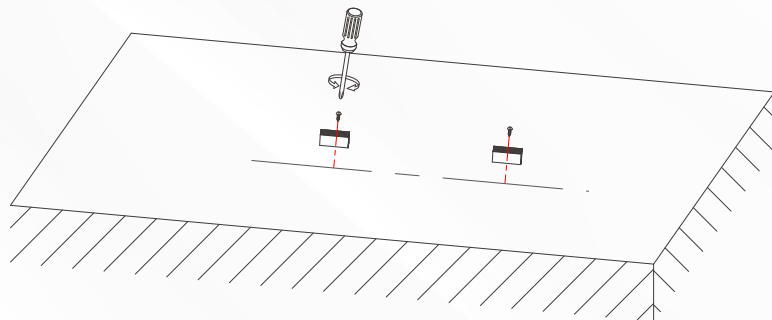

Figure 1
1. First, fix the fixing clip at the place where the LED strip is to be installed, as shown in Figure 1: